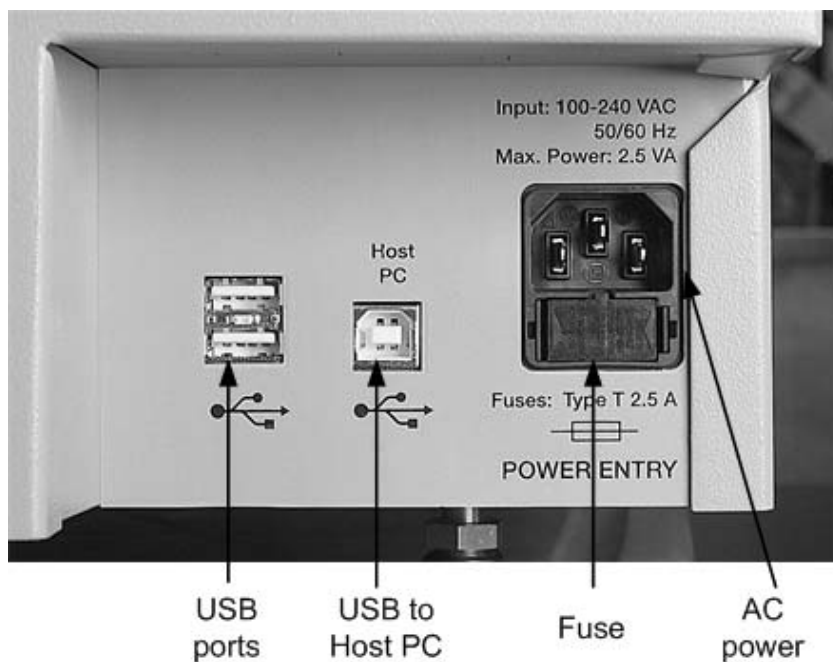

Figure 2-6. Spot cutter USB ports and power entry module.
1. Connect the square end of the USB cable to the EXQuest spot cutter hub labeled "Host PC", located on the instrument right side (see Figure 2-6, below).